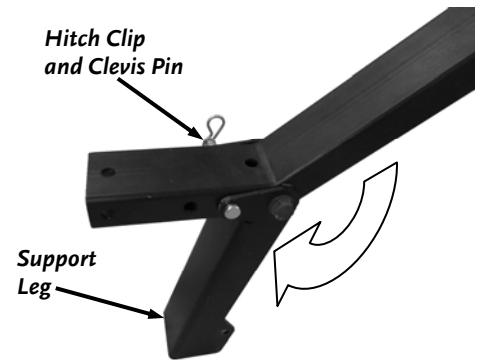

Figure 5
5. Pull the Hitch Clip and Clevis Pin from the Leg and fold it to the down position. Align the holes and secure the Leg with the Clevis Pin and Hitch Clip (**Figure 5**).